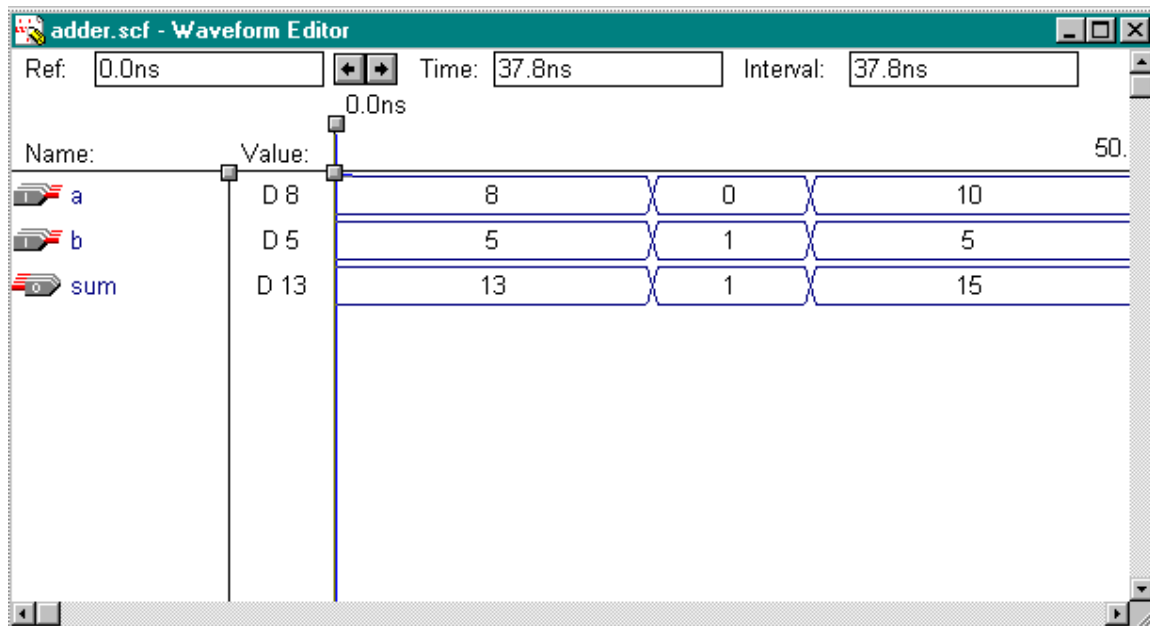

Figure 1-2.
5. Check to see if you get the same results shown in Figure 1-2.